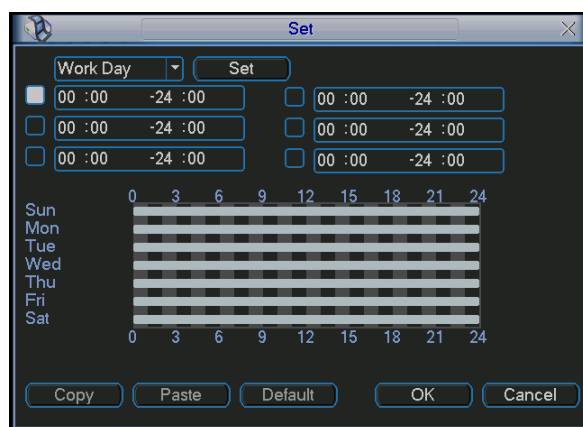
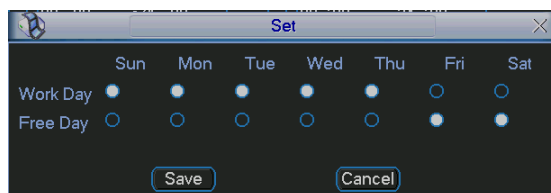

Figure 4-21
Figure 4-22
- Period: Click set button, you can see an interface is shown as in Figure 4-21. Here you can set for business day and non-business day. In Figure 4-21 , click set button, you can see an interface is shown as in Figure 4-22. Here you can set your own setup for business day and non-business day.